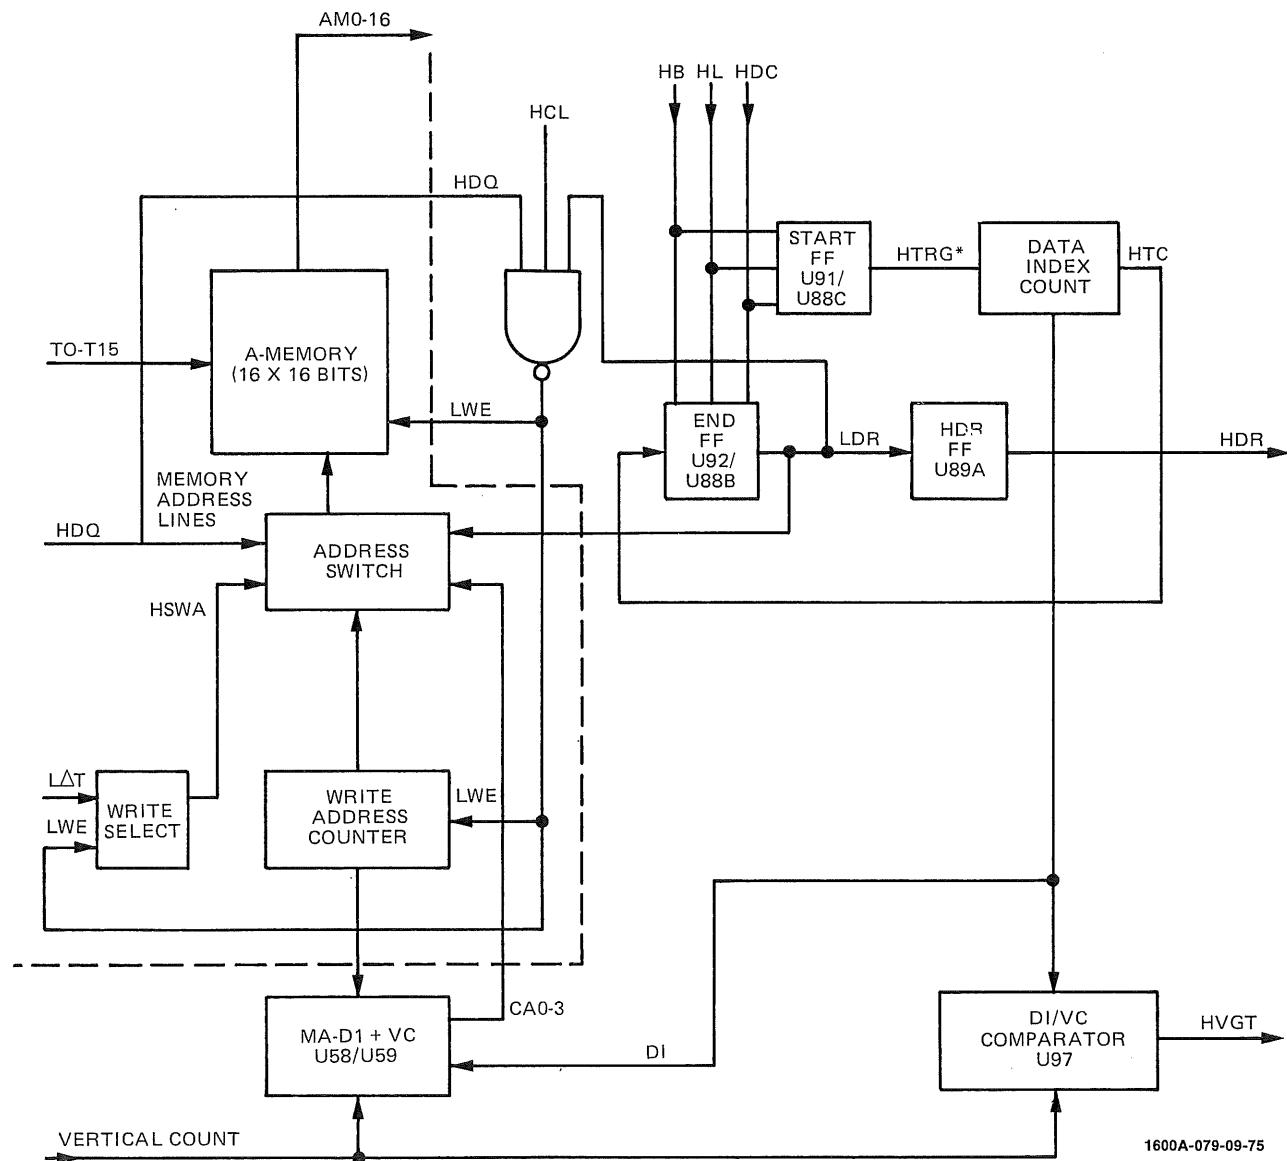

Figure 4-12. A-memory and Data Index/Control Block Diagram
**4-62. A-MEMORY AND MEMORY INDEX AND CONTROL. (See figure 4-12.)** When the display section generates LRST, a data acquisition cycle is initiated. The data index counter, and the start and end flip-flops are reset. When a qualified clock is detected, the memory address lines are switched to the write address counter and a memory write enable pulse (LWE) is generated. While LWE is true, one word is written in memory. At the trailing edge of LWE, the write-address and data index counters are incremented